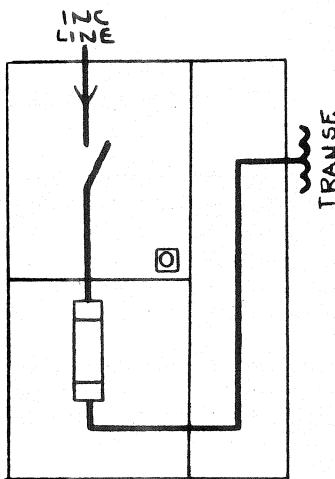

FIG. 3
- Load center incoming line equipments (LVP) - (Fig. 3, 4, 5)
## 3. LVP Two-Position Air-Interrupter Switch Fig. 3